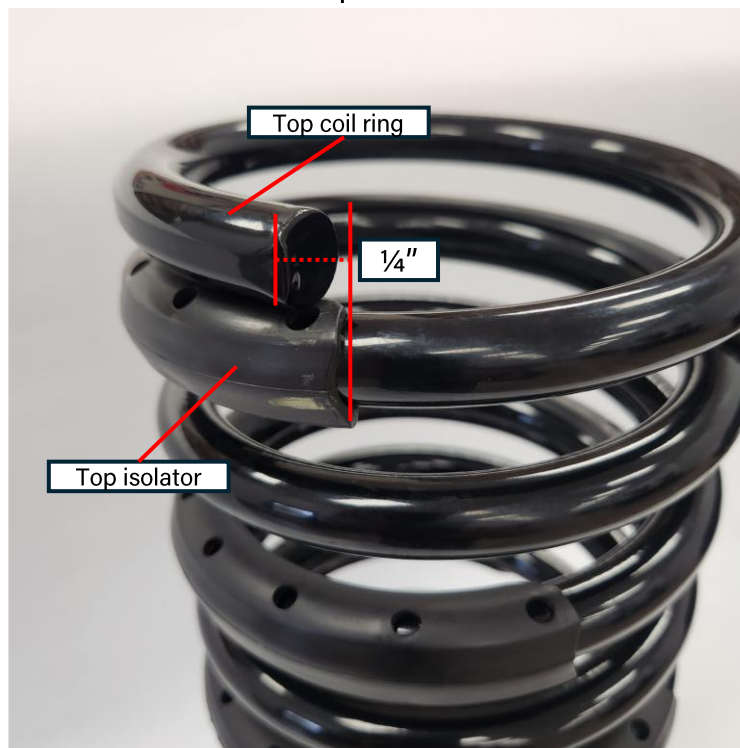

Figure 1: Top isolator location
- Pry the spring apart slightly to install the first isolator at the top of the coil. Locate the first isolator about ¼" out past the top coil ring. See Figure 1 below.